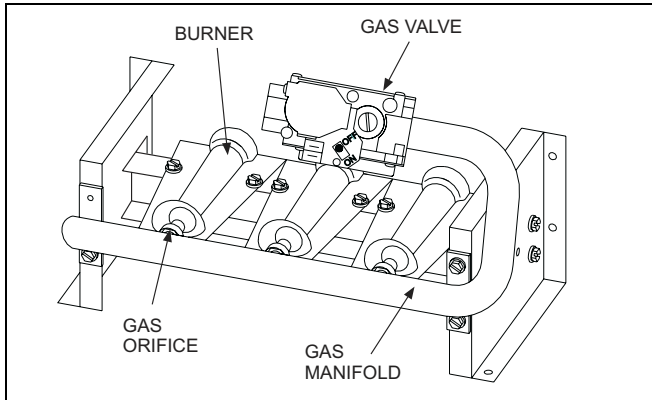

FIGURE 1: Burner Assembly
4. Remove the four screws that attach the gas manifold to the burner support box. See Figure 1.